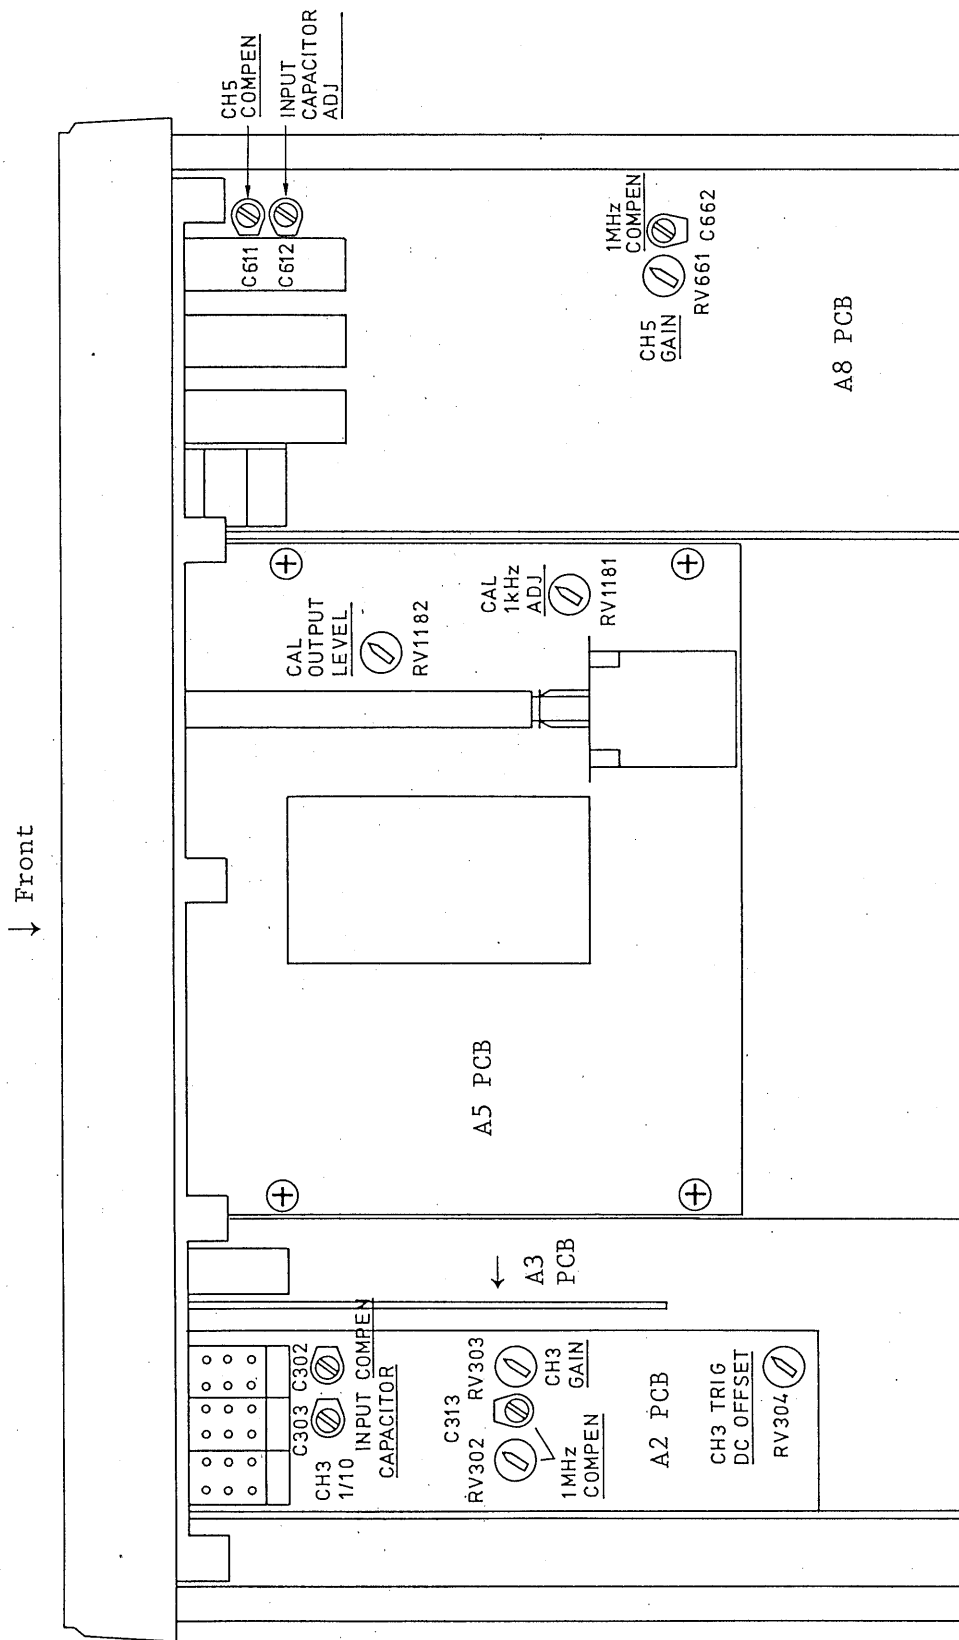

Figure 7-10 (Bottom view)
In a similar manner as is the case for "Adjustment of input ATT of CH1 and CH2," adjust C305 so that the 1/1 input capacitance becomes 20 pF $\pm$ 2 pF. Next, adjust input capacitance compensation capacitor C303 and phase compensation capacitor C302 of 1/10 ATT. (See Figure 7-10.)
For this adjustment, adjust CH3 TRIG DC OFFSET (Figure 7-10, RV304) in a similar manner as is the case for "Adjustment of CH1 TRIG DC OFFSET."
- (1) Connect the CALIB output (43) to a frequency counter.
- (2) So adjust the CAL 1 kHz ADJ (Figure 7-10, RV1181) that the frequency counter 1 kHz.
- (1) Set at 200 mVp-p the signal of the generator used for "calibration of sensitivity" of Section 7.5. Apply this signal to the CH1 input terminal.
- (2) Display the signal on the screen with an amplitude of 8 DIV by adjusting the VOLTS/DIV switch (23) and VARIABLE knob (22).
- (3) Apply the 200 mV CALIB output to the CH1 input terminal. So adjust the CAL OUTPUT LEVEL (Figure 7-10, RV1182) that the signal is displayed with an amplitude of 8 DIV on the screen in the same manner as step (2) above.